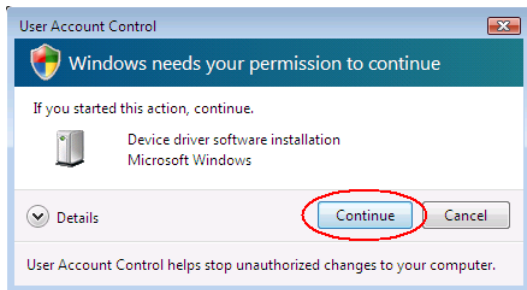

Figure 66. Hardware wizard 2nd screen
- Then choose "Continue" (see Figure 66).